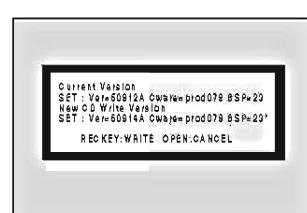

Fig. 3-2-7
- 7) Press the REC ● button on this HDD/DVD recorder three times: Both the current version of main firmware and the version of main firmware on the disc will appear on the screen (Fig. 3-2-7).